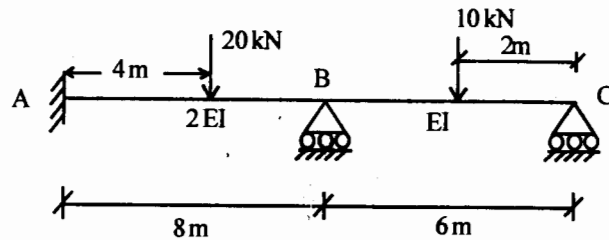

Figure 2
- (c) A beam ABC is fixed at 'A' and supported at 'B' and 'C' respectively as shown in Fig. 2. Find the distribution factors at joint B, if no moment is to be transferred at 'C'.